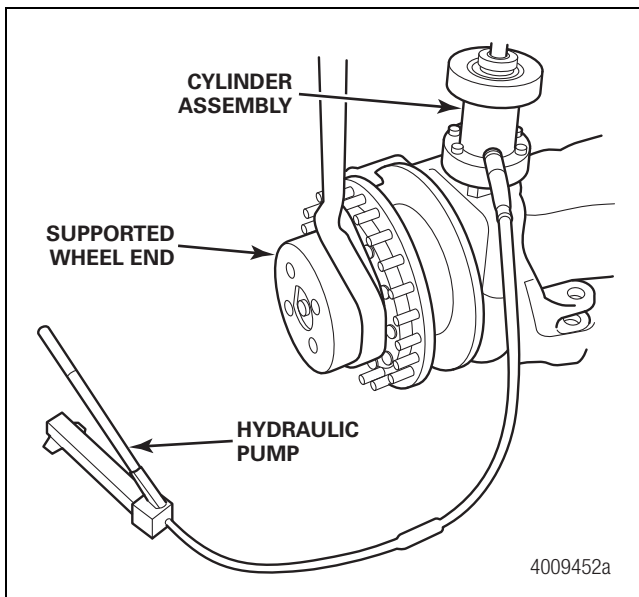

Figure 10.25
13. Pump the hydraulic pump repeatedly until the king pin is pulled free from the knuckle. Figure 10.25.